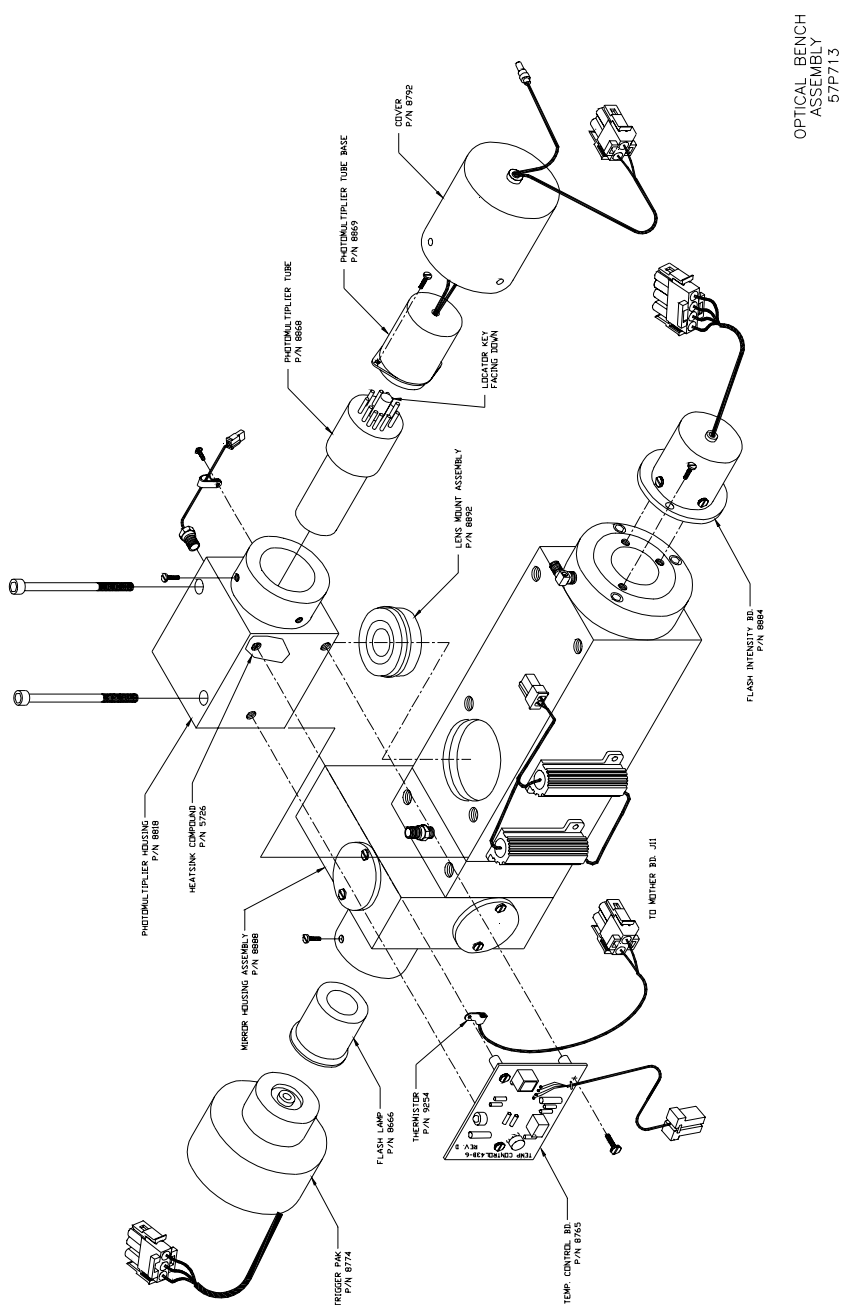

Figure 7-4. Optical Bench Assembly
5. Lift the optical bench from the floor plate to gain access to the Flash Intensity Board (see Figure 7-4).
4. Unplug J61 on the temperature control board (see Figure 7-4).